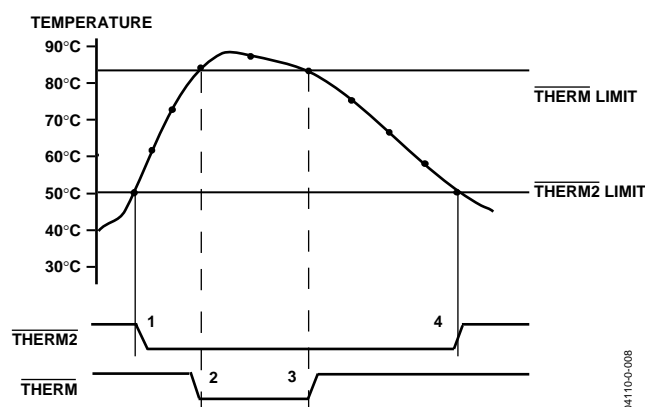

Figure 22. Operation of the $\overline{\text{THERM}}$ and $\overline{\text{THERM2}}$ Interrupts
Figure 22 shows how $\overline{\text{THERM}}$ and $\overline{\text{THERM2}}$ might operate together to implement two methods of cooling the system. In this example, the $\overline{\text{THERM2}}$ limits are set lower than the $\overline{\text{THERM}}$ limits. The $\overline{\text{THERM2}}$ output could be used to turn on a fan. If the temperature continues to rise and exceeds the $\overline{\text{THERM}}$ limits, the $\overline{\text{THERM}}$ output could provide additional cooling by throttling the CPU.
3. The $\overline{\text{THERM}}$ output deasserts (goes high) when the temperature falls to $\overline{\text{THERM}}$ limit minus hysteresis. In Figure 22, there is no hysteresis value shown.